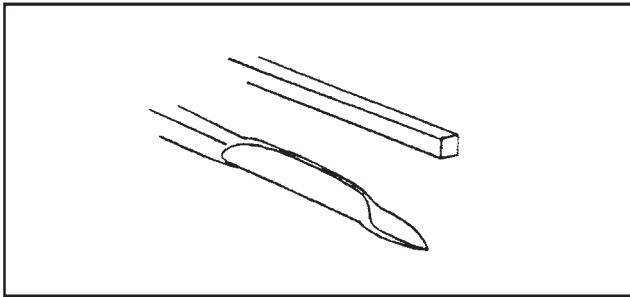

Figure 23.8 The mainspring is made by forging the keystone into a thin, leaf shape.
16. The mainspring is forged from a 6- to 8-inch piece of $\frac{5}{16}$ -inch square keystock. Forge one end of the bar into a thin, leaf shape as shown in Fig. 23.8.